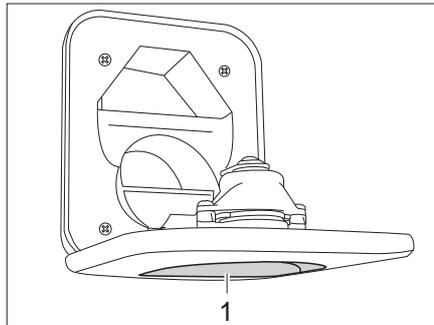

Fig. 156 Fresh water filler neck for toilet
- Open the fresh water filler neck for the toilet (Fig. 156,1) above the flap for the Thetford cassette and swivel downwards.